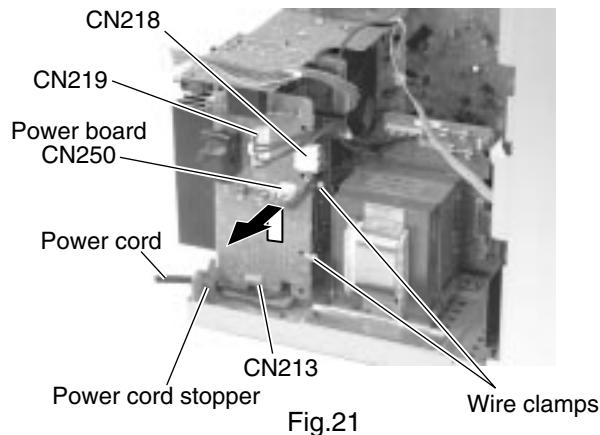

Fig.21
■ Removing the power board / power cord (See Fig.21)